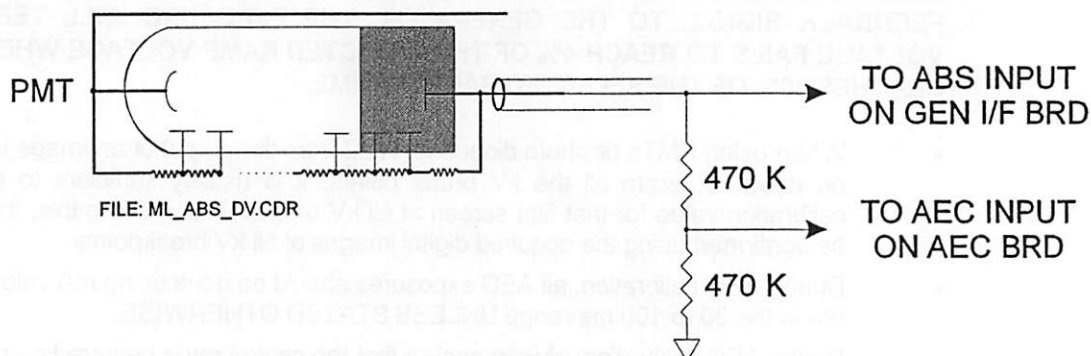

Figure 3D-12: Connections for PMT AEC
1.	Route the output signal from the PMT to AEC input channel 4 as per figure 3D-12. The resistor divider network will need to be provided by the installer. Appropriate high voltage shielded cable should be used for the PMT signal connections.
2.	Set the PMT voltage to approximately -650 VDC for AEC operation using R19 on the AEC interface board. Note that AEC channel 4 must be selected in order for R19 to be made active. USE ONLY TP5 ON THE AEC INTERFACE BOARD (FIGURE 3D-10, 3D-11) FOR THE HV METER GROUND WHEN MEASURING PMT HIGH VOLTAGE. CONNECT THE GROUND LEAD FIRST BEFORE MEASURING THE HIGH VOLTAGE. DO NOT ATTEMPT TO MEASURE THIS WITHOUT A SUITABLE METER.